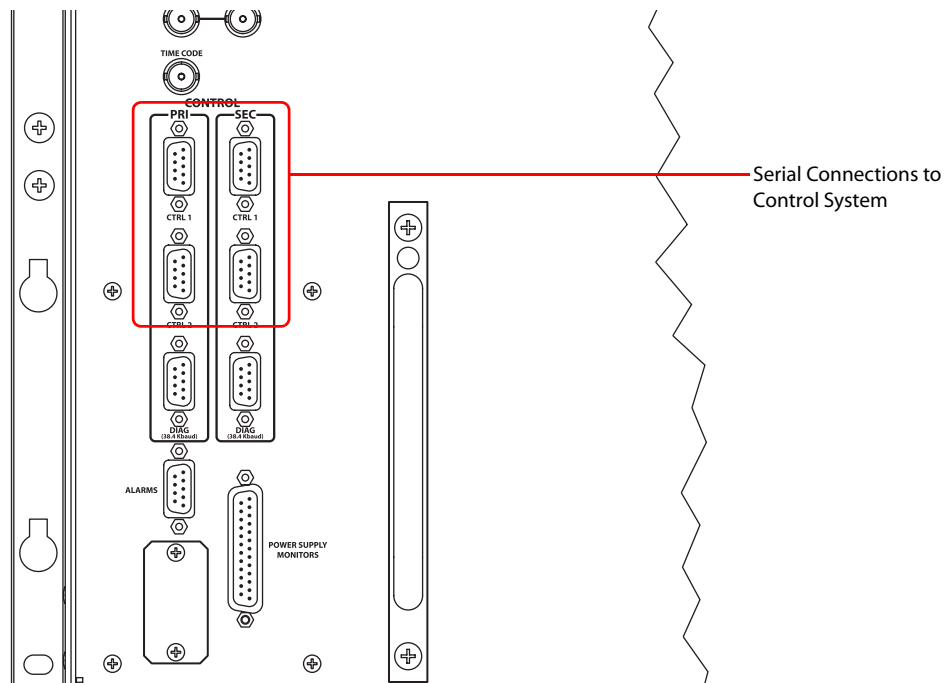

Figure 2-16. Serial Connections to Router Control System
- 1 Locate the serial control connections on the rear of the router, as shown in Figure 2-16. Serial control connections are labeled 'PRI' for the primary control card and 'SEC' for the secondary control card.